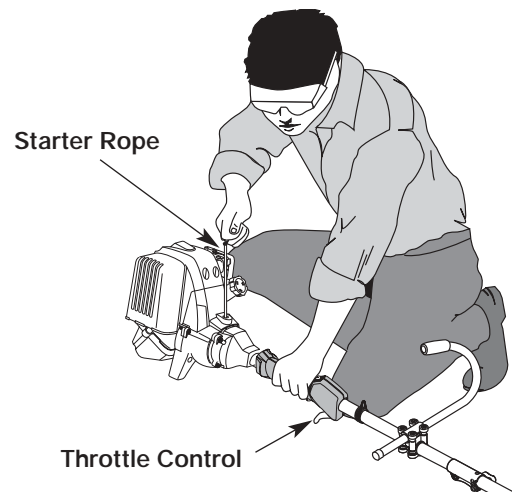

Fig. 12
WARNING: Avoid accidental starting. Remain in the starting position when pulling the starter rope (Fig. 12). The operator and unit must be in a stable position while starting to avoid serious personal injury. Make sure that any Add-On item is installed correctly and secure before starting the unit.
5. With the unit in the starting position (Fig. 12), **DO NOT SQUEEZE THE THROTTLE CONTROL**. Pull the starter rope briskly 5 times. If the engine starts to run before the fifth pull, proceed to step 6. If the engine does not start, go back to step 4.
1. Release your hand from the throttle control (Fig. 12). Allow the engine to cool down by idling.